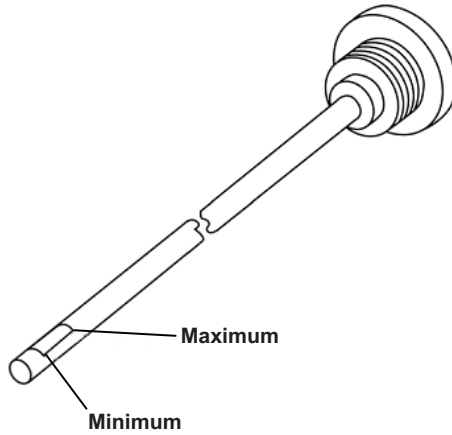

Figure 2-5. Dipstick Indents
- e. Visually check the compressor oil dipstick to verify the amount of oil in the crankcase. Remove the dipstick, wipe it with a clean, lint-free rag and reinsert, fully threading it in to obtain a proper oil level reading. Remove the dipstick and ensure that the oil level is within the minimum and maximum indents (figure 2-5) on the dipstick. If the oil level is incorrect, add or remove oil In Accordance With (IAW) PMCS (Chapter 4).